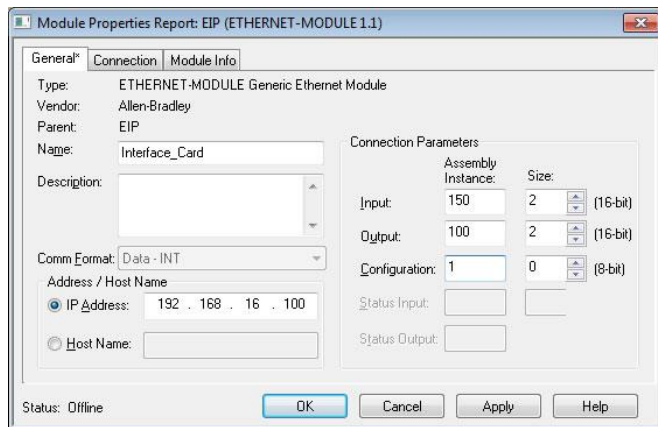

Figure 25: Interface Card Module Properties
- 19) The module properties dialog box will open (refer to Figure 25). Enter a Name which will allow easy identification of the inverter on the network (the tags created in RSLogix 5000 will be derived from this Name). Because all inverter data is stored as 16-bit registers,